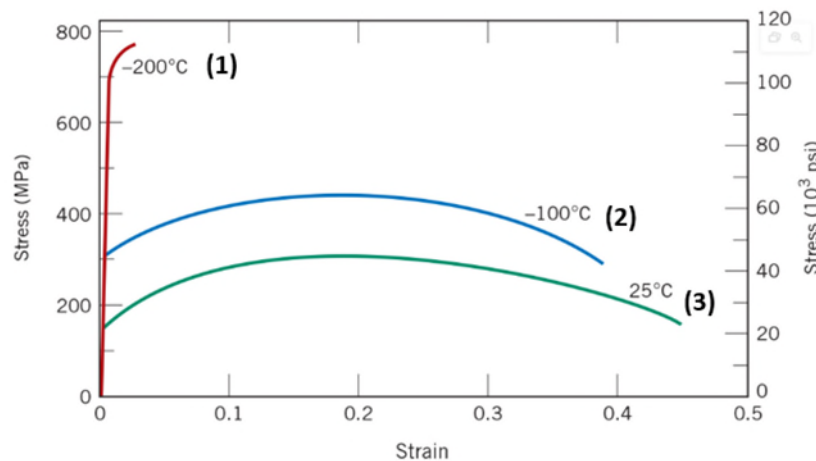

Figure 4: Engineering stress-strain curves for iron at three temperatures.
- (a) Figure 4 shows the engineering stress-strain curves for iron at three different temperatures: (1)  $-200^{\circ}\text{C}$ , (2)  $-100^{\circ}\text{C}$ , and (3)  $25^{\circ}\text{C}$ .